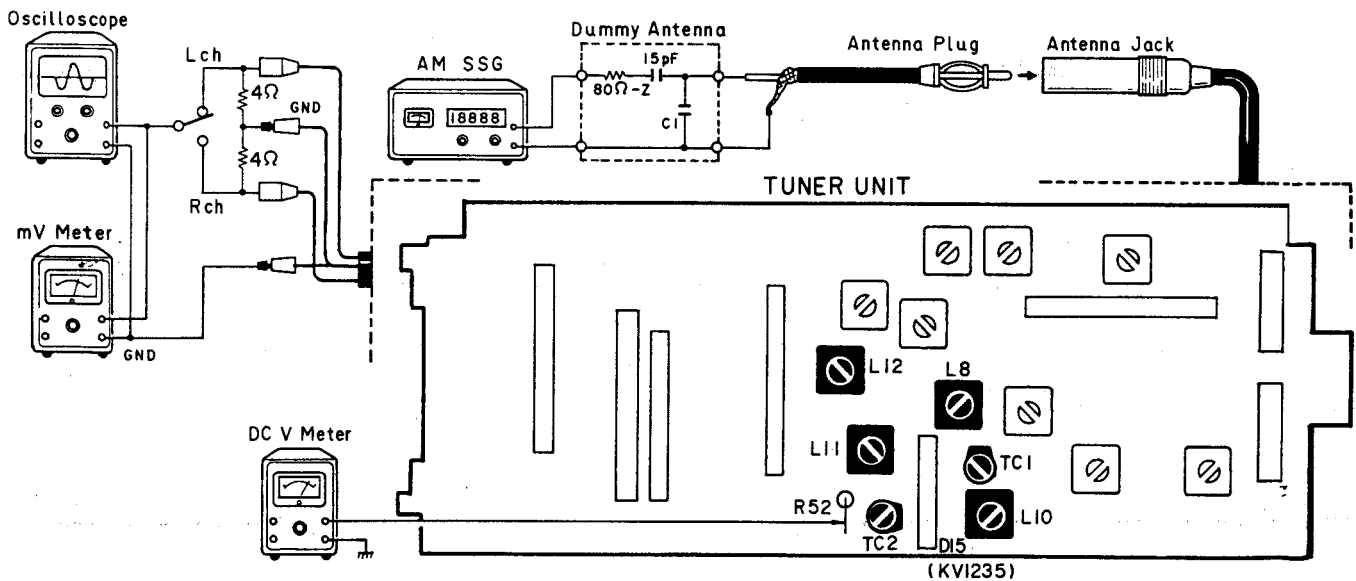

Fig. 21
- Connection Diagram (Shown in Fig. 21)